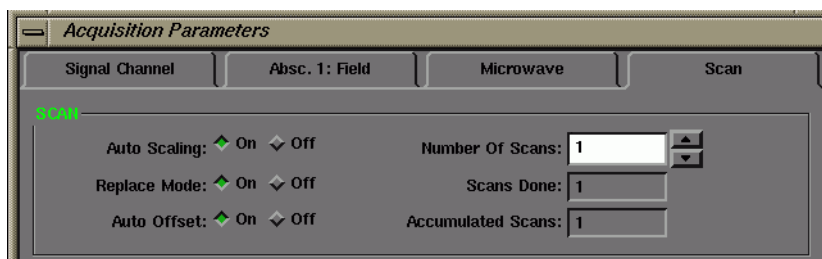

Figure 3-18 The scan parameters.
9. **Check the Scan parameters.** Click the Scan tab. (See Figure 3-18.) Edit the parameters in the dialog box so that they match those shown in Figure 3-18. After you have finished all the above parameter settings click the Close button.